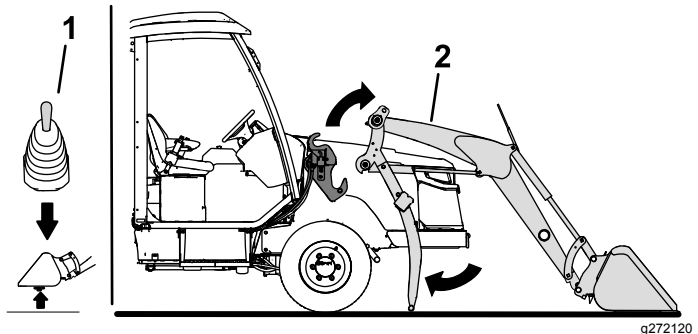

Figure 46
- Use the loader joystick to raise the loader arms out of the loader-frame mounts (Figure 46).